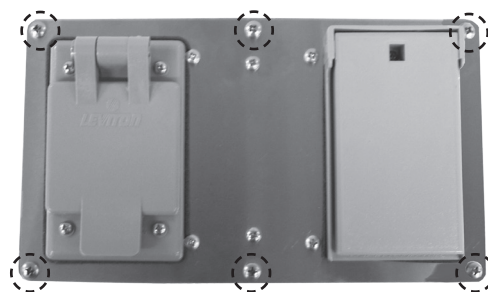

Fig. 49-1 Remove 6 large screws
2. Using a phillips screwdriver, remove the 6 large screws found on the cover of the power supply box (see Fig. 49-1).